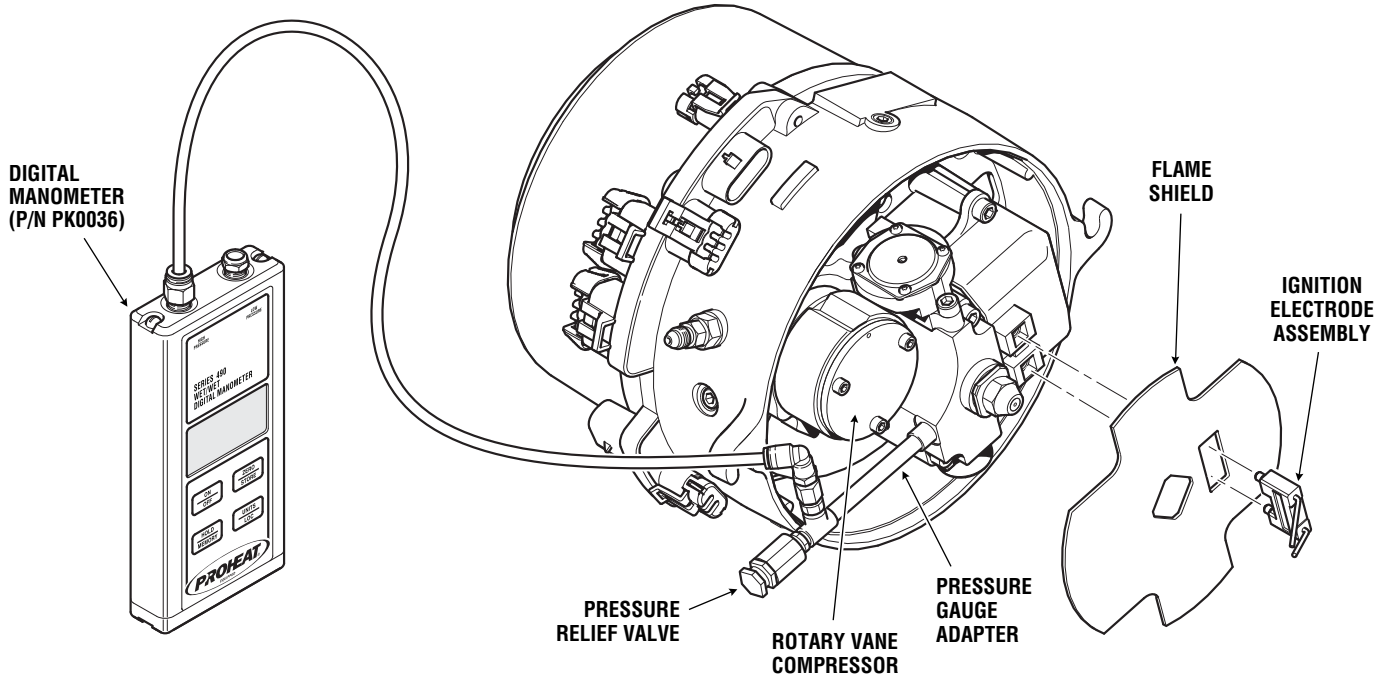

Figure 4-10: Air Pressure Test. Rotary Vane Compressor Model.
Ensure to orient burner head as shown in Figure 4-10 or an incorrect pressure measurement may be made.
- h) Thread in Pressure Gauge Adapter hand tight as shown in Figure 4-10.